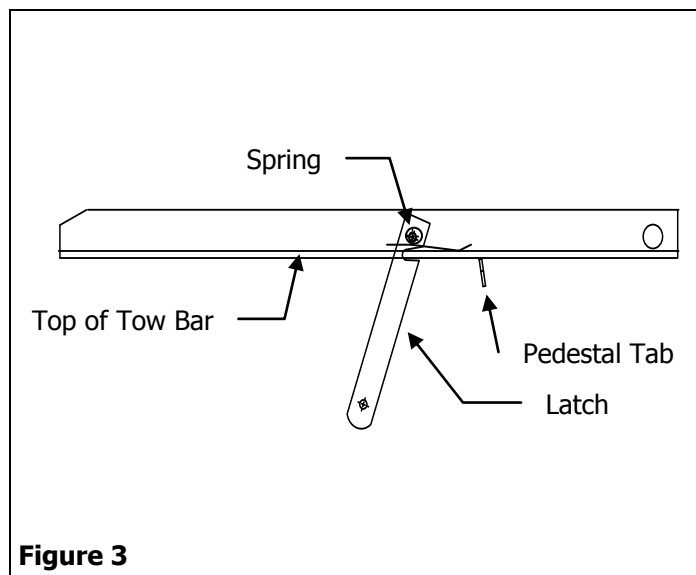

Figure 3
3. Slide the Latch, Spring and Spacer through the Tow Bar. This will cause the Spring to open. See Figure 3.